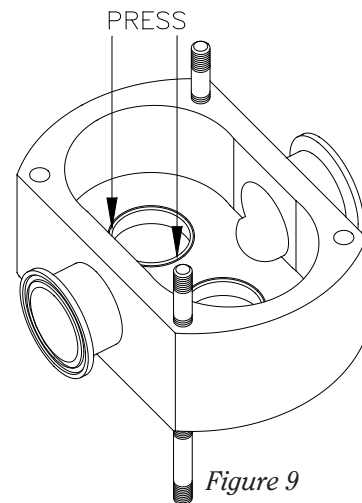

Figure 9
- f) Place your thumbs on the ID of the front stationary seals and push downward to press the stationary seals out of the pump housing (*Figure 9*).